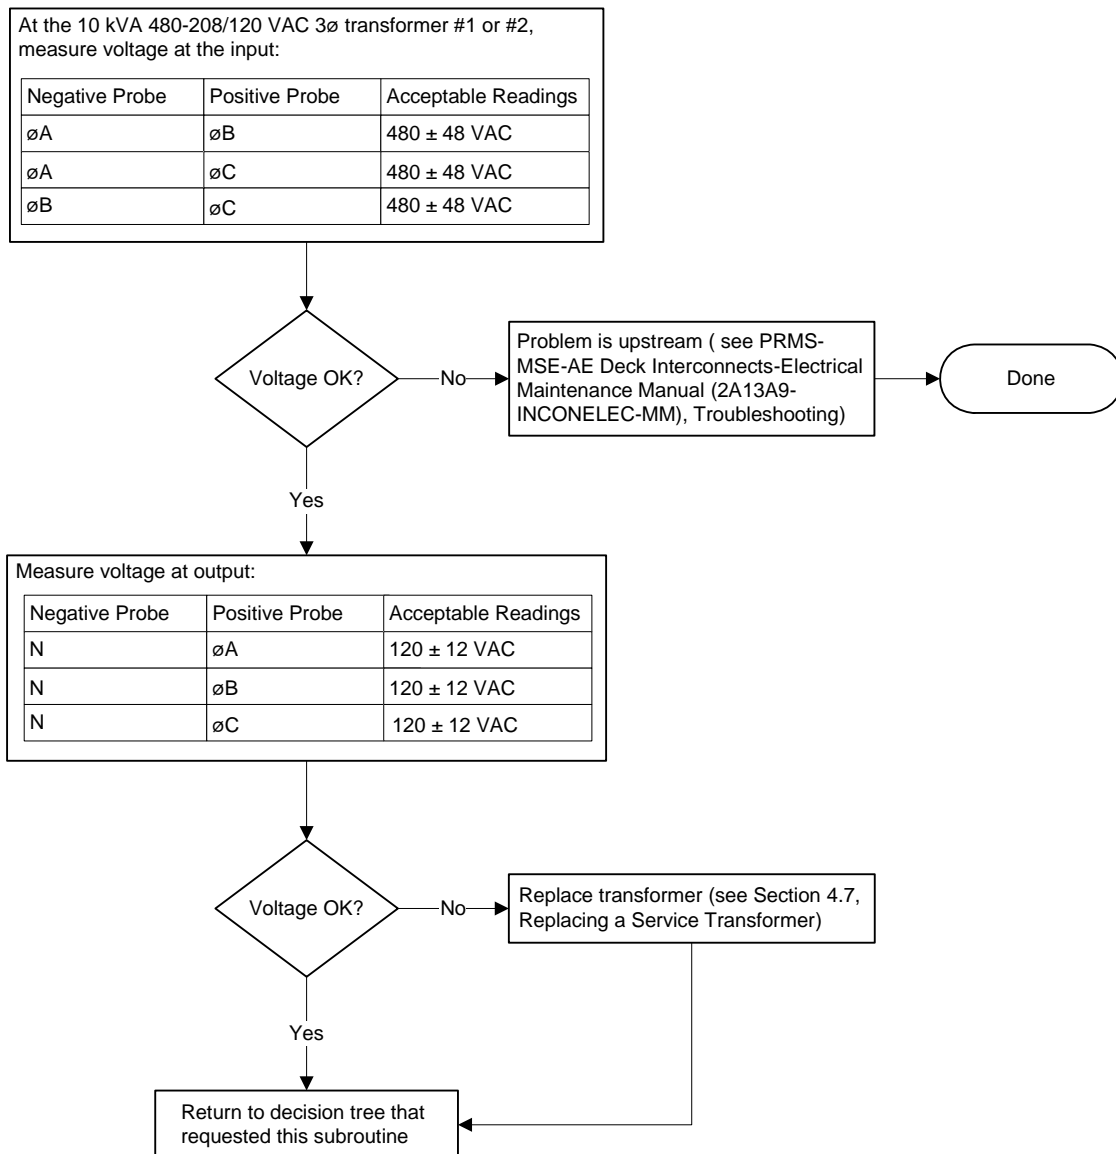

Figure 1 Troubleshooting Subroutine – 10 kVA 480-208/120 VAC 3Ø Transformer #1 or #2 Power Check
- Follow the troubleshooting steps in Figure 1.